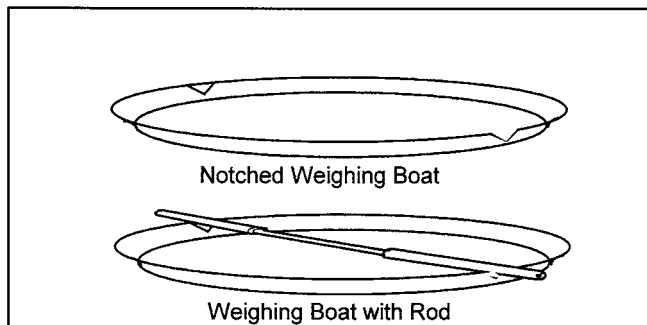

FIG. 2 Weighing Boat and Rod
- 5.24 Weighing Boat, light, circular or oblong open container, preferably made of aluminum with a diameter or length of approximately 7 to 10 cm and notched in two diametrically opposed places to prevent the rod from rolling. (See Fig. 2.)